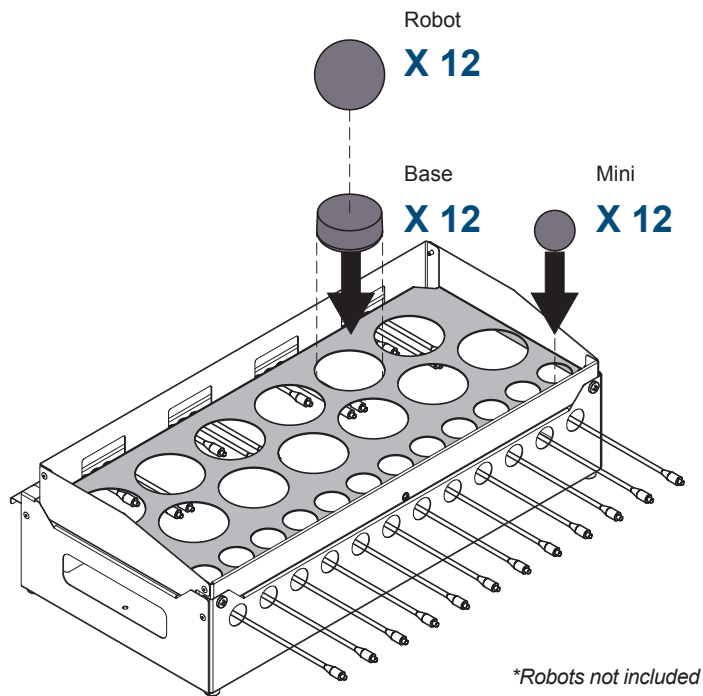

Figure 3
1. Plug charge cords into robot bases. **Figure 3.**